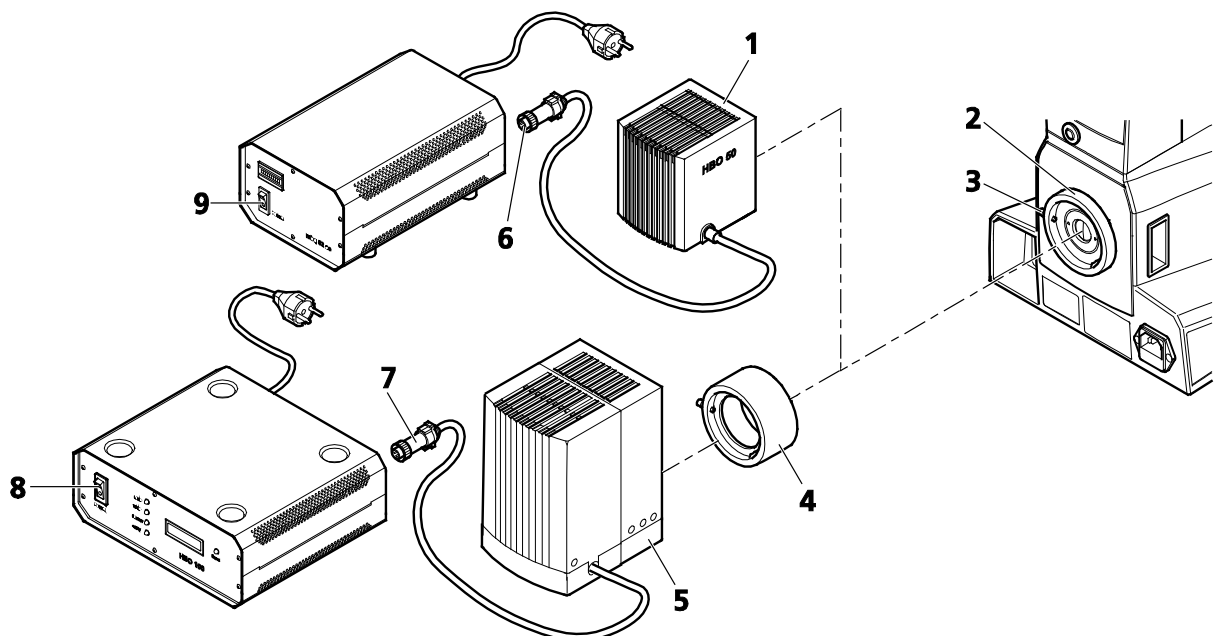

Fig. 3-16 Attaching the HBO 50 Illuminator or the HBO 100 Illuminator
- Loosen the clamping screw (Fig. 3-16/3) and remove the protective cap from the reflected light port (Fig. 3-16/2).
- Insert the HBO 50 (Fig. 3-16/1) or the adapter for the HXP 120C illuminator with the dovetail directly into the reflected light port (Fig. 3-16/2) and lock it into position with the clamping screw (Fig. 3-16/3), using ball-headed screwdriver SW 3.
- When it comes to the HBO 100, be sure to attach the 35-mm distance ring (Fig. 3-16/4) onto the reflected light port in the same manner before mounting the illuminator (Fig. 3-16/5).
- Connect the multipole illuminator plug (Fig. 3-16/6 or 7) to the socket of the appropriate power supply unit and secure it with the retaining ring.
- Use the ON/Off switch (Fig. 3-16/9) to turn on the power supply unit for the HBO 50 or the ON/Off (Fig. 3-16/8) to activate the HBO 100.